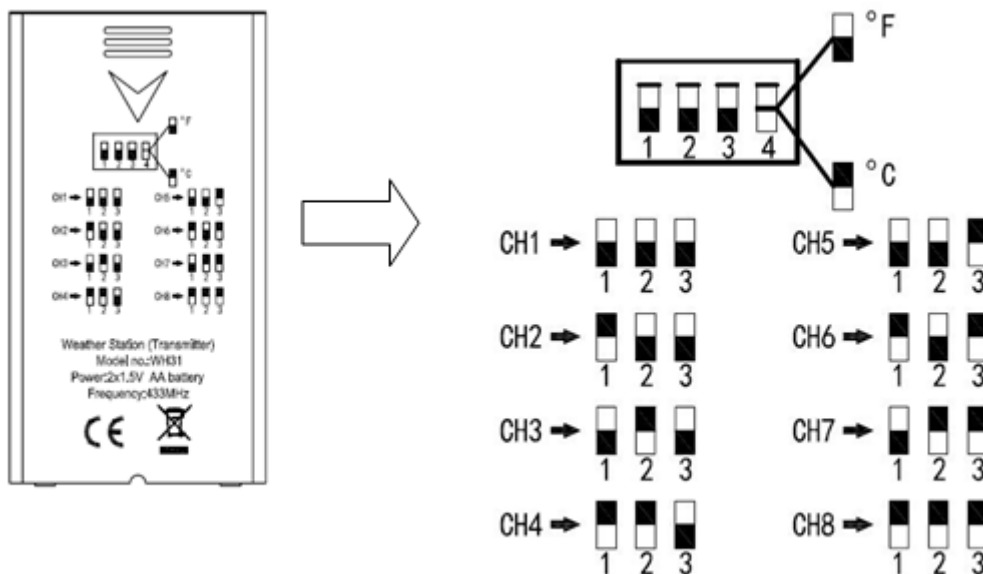

Figure 11
3. **Channel Number:** The WS-2902C supports up to eight transmitters. To set each channel number (the default is Channel 1), change Dip Switches 1, 2 and 3, as referenced in Figure 11.
4. **Temperature Units of Measure:** To change the transmitter display units of measure (°F vs. °C), change Dip Switch 4, as referenced in Figure 11.